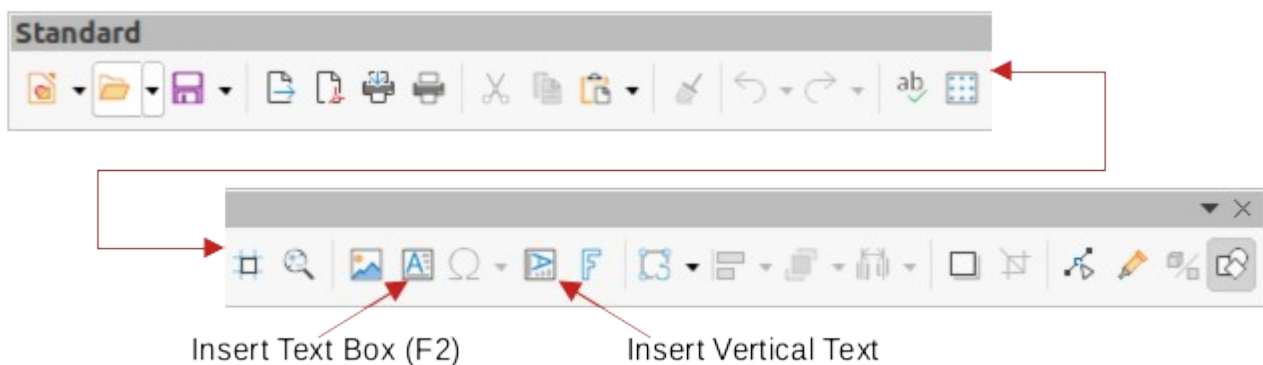

Figure 6: Standard toolbar with *Insert Vertical Text* added
- Click on **Insert Text Box** or **Insert Vertical Text** (if added) on the Standard toolbar (Figure 6).